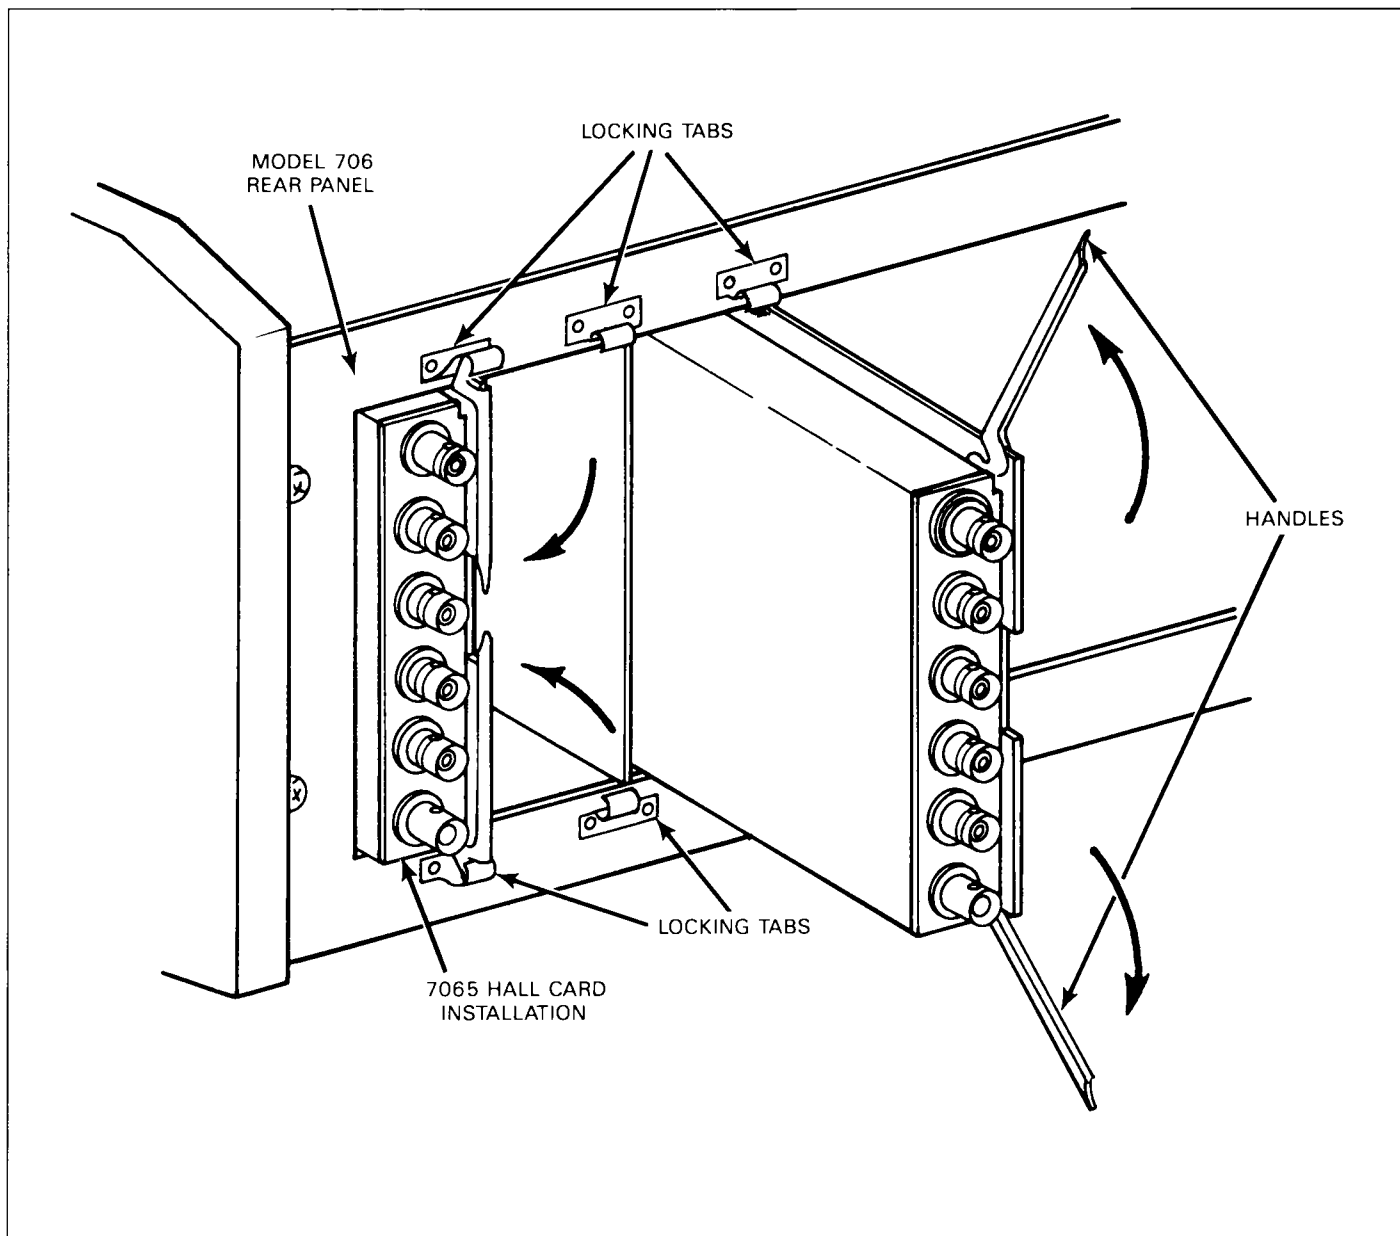

Figure 2-2. Model 706, Card Installation
Install the Model 7065 in the Model 706 Scanner using Figure 2-2 as a guide.
2. Once the card is aligned with the grooves, push the card as far as it will go into the slot until it is properly seated into the slot connector. After the card is properly seated, lock the card with the tabs, as shown in Figure 2-2.
3. To remove the card, unlock the tabs by pulling them outward as shown in Figure 2-2. Grasp the end of the card and pull it free of the mainframe.